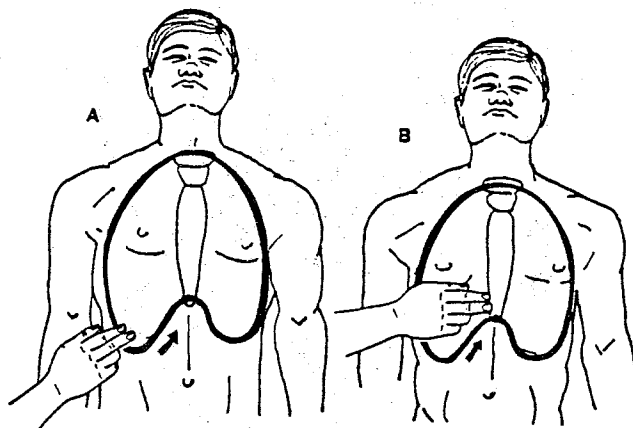
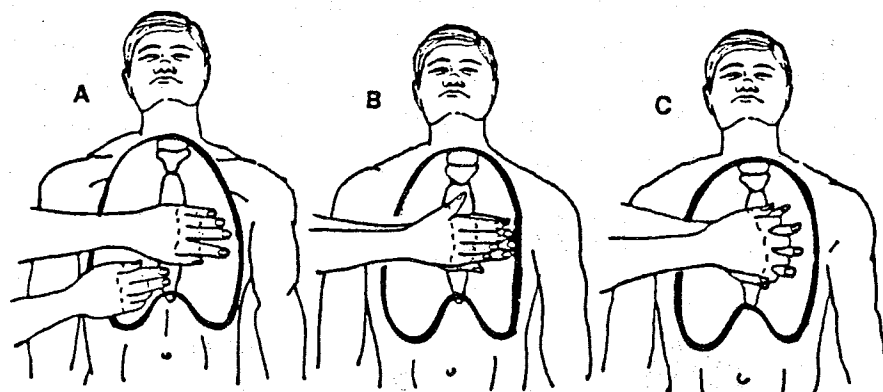

Figure 4 - Locating Xiphoid Tip
Figure 5 - Correct Hand Position on the Sternum
- **Cardiac compressions** - Kneel at the victim's side near his/her chest. (Victim should be on a hard, flat surface.) To determine the pressure point for cardiac compressions, locate the bony tip (xiphoid process) of the breastbone (sternum) with your middle finger and place one finger just above that point (*Figure 4*). Place the heel of one hand adjacent to your fingers and the second hand on top of the first (*Figure 5*).